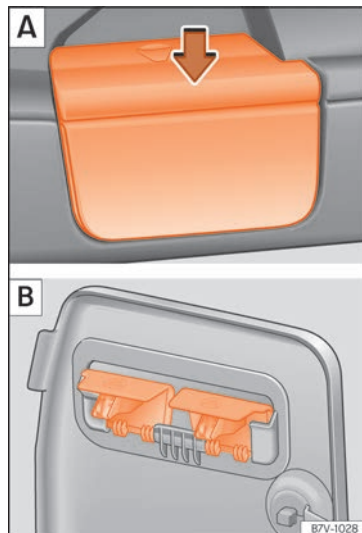

**Fig. 142** Remove the shelf supports A then put them away safely B.
- Remove the shelf from the side trim support » **Fig. 142 A**. To do this, press the shelf upwards (arrow) and remove it.
- Open the compartment in the left-hand side boot lining » **page 152** and hook the shelf to the rear of the compartment lid » **Fig. 142 B**.